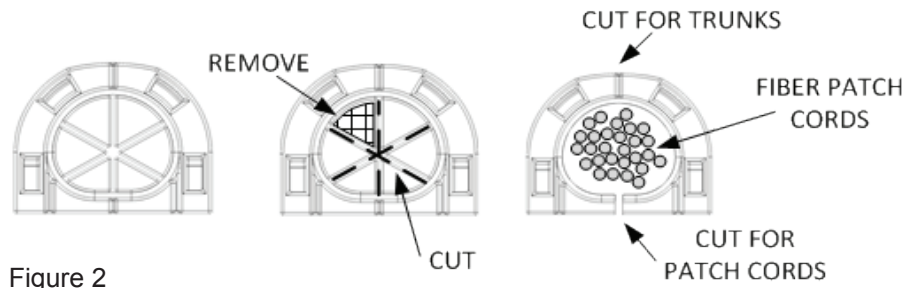

Figure 2
- 3) Using a sharp-edged tool, cut the appropriate opening in using the scored marking lines as shown in figures 2 and 3: